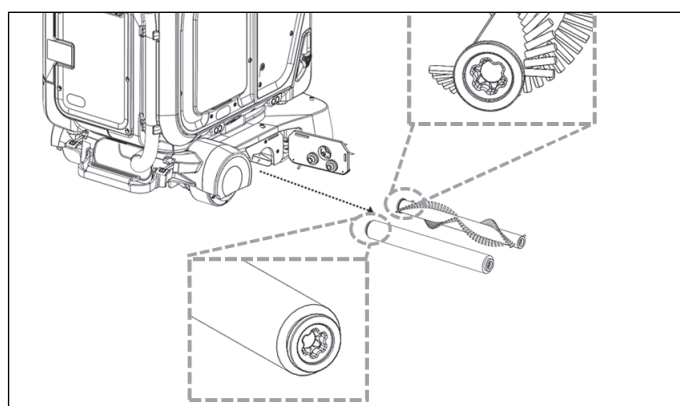
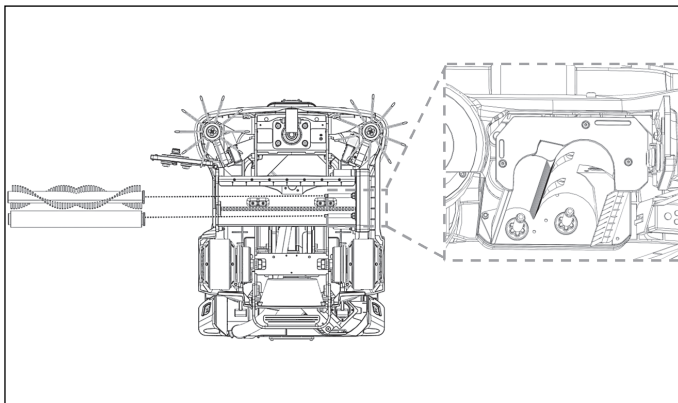

Figure 71
Figure 72
3. Check the end of the brush and roller with the female alignment and lock feature, then slide the brush into the brush slot (Fig. 71), (Fig. 72).